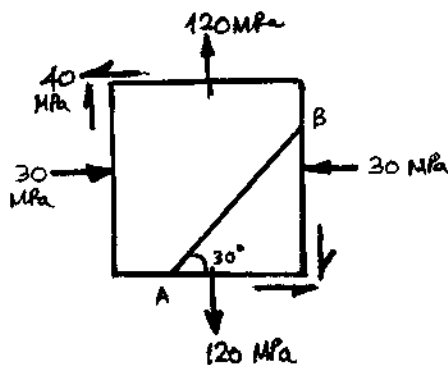

Fig. Q3 (c)
c. At a certain point in a strained material the stress condition is obtained as shown in Fig. Q3 (c).